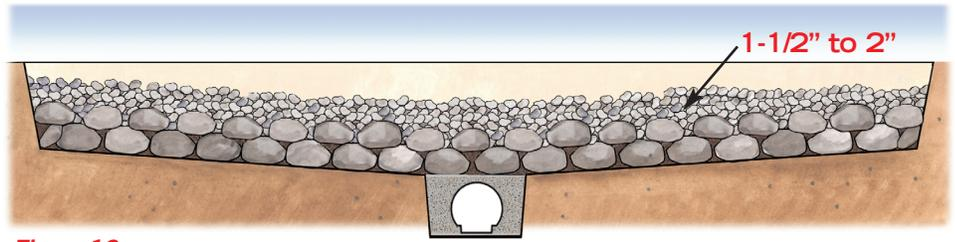

Figure 12
12. After all the joints are covered, pour a 4" to 6" layer of 1-1/2" to 2" gravel over the stones. Level the layer with a rake. (Figure 12)